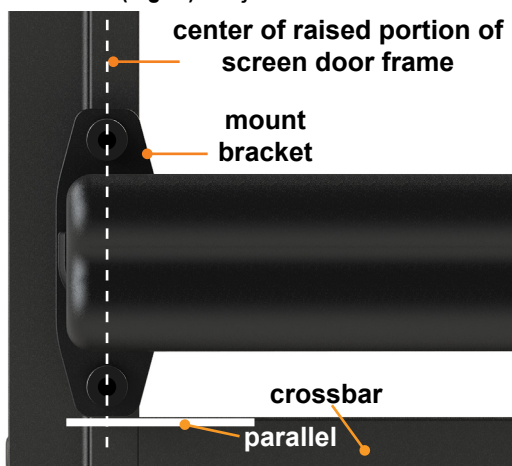

Fig.16
2. Mount the bracket on the screen door to the center of the raised portion of the screen door frame (Fig.16).